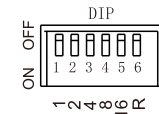

Fig. 4
- (1) DIP switch setting: DIP1-4 as program switch, please see setting as follow(1=ON, 0=OFF), DIP 5 is blank, DIP 6 is for remote controller (see fig. 4)
- (2) Calculation of DIP address code:
- (3) Using of Wireless Remote Controller:
Firstly set DIP No.6 into "ON", select color with button "■", button "○" used for power on/off, button "☀" "☀" used for brightness adjusting (6 levels) (Fig. 4)